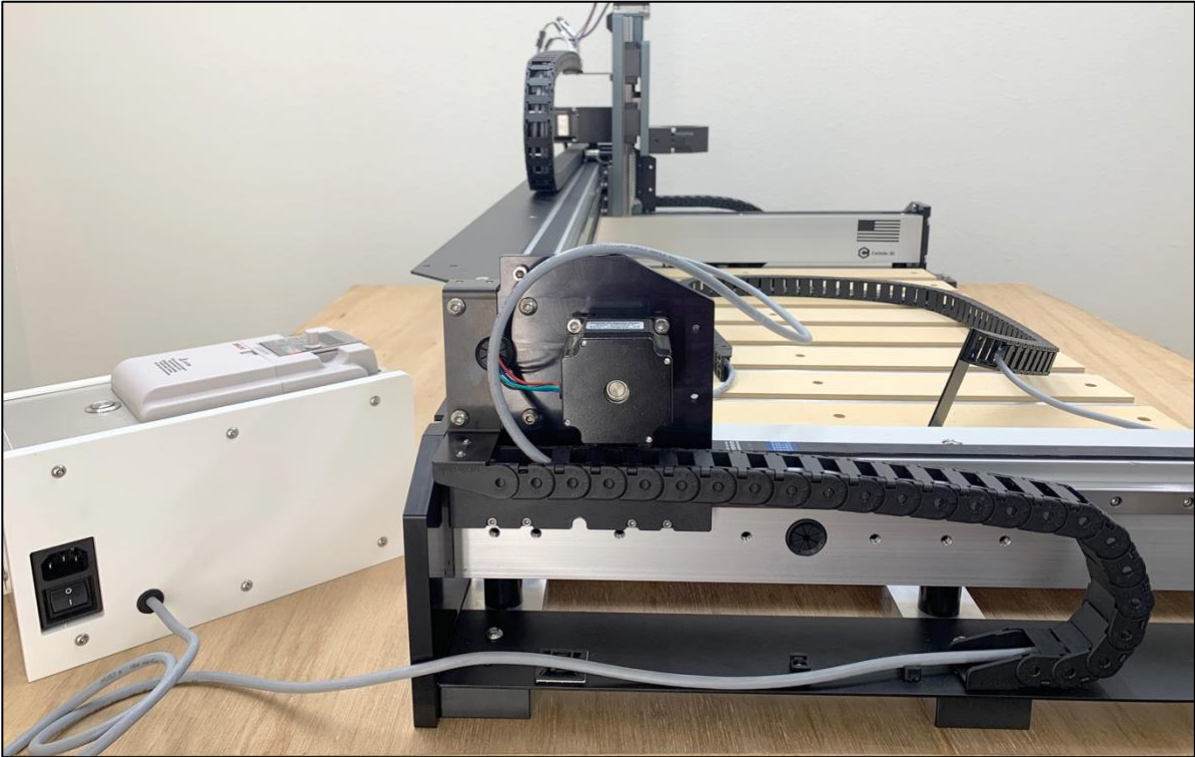
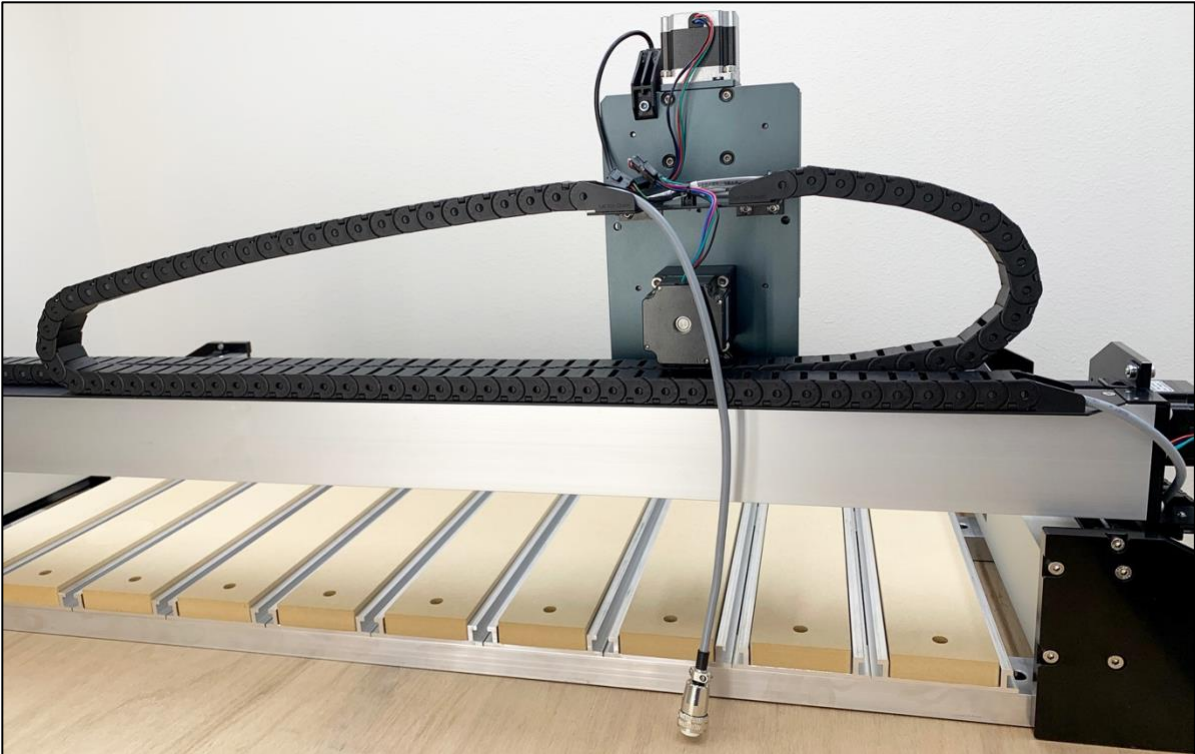

Figure 7
Figure 8
10. Reinstall the drag chains. See **Fig. 7** (Y-Axis) and **Fig. 8** (X-Axis).